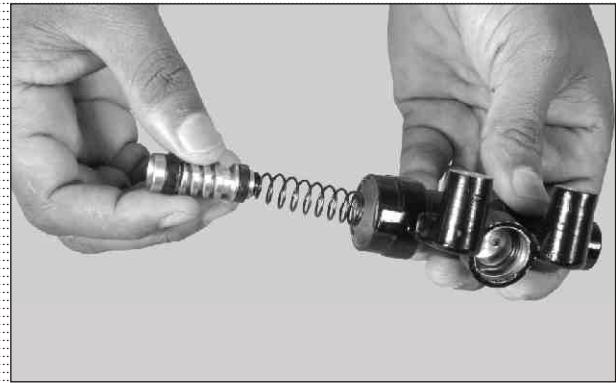

Fig. 6.118
- Slowly pull out piston along with P - cup, S - cup and spring. (Fig. 6.118)